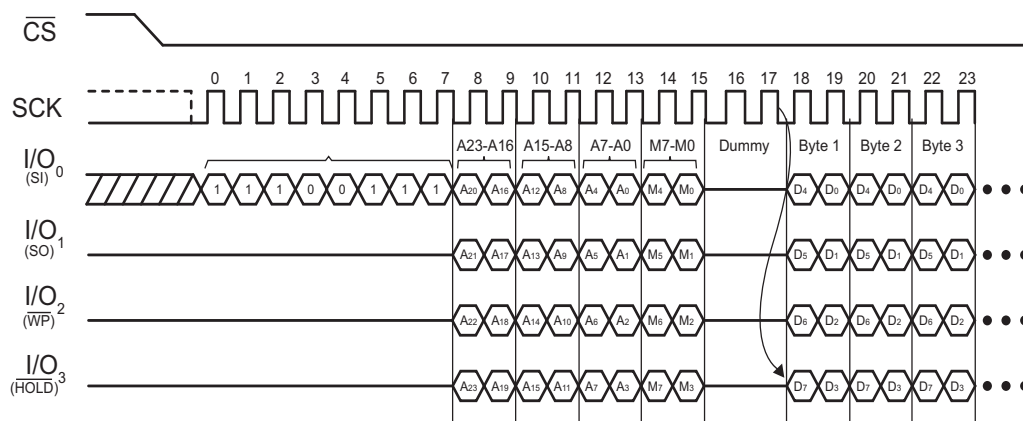

Figure 14. Quad-I/O Word Fast Read Timing (Initial Command Set M5, M4 ≠ 1,0) SPI Mode
The Quad-I/O Word Fast Read command is similar to the Quad Fast Read command, except that the lowest address bit (A0) must equal 0 and have two dummy clock cycles. Figure 14 shows the command sequence; the first byte addressed can be at any location. The address is automatically incremented to the next higher address after each byte of data is shifted out. The Quad Enable bit (QE) of the Status Register (S9) must be set to enable. This is the default setting on power-on.